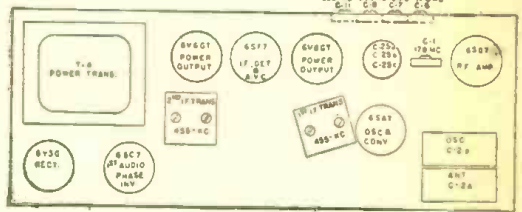
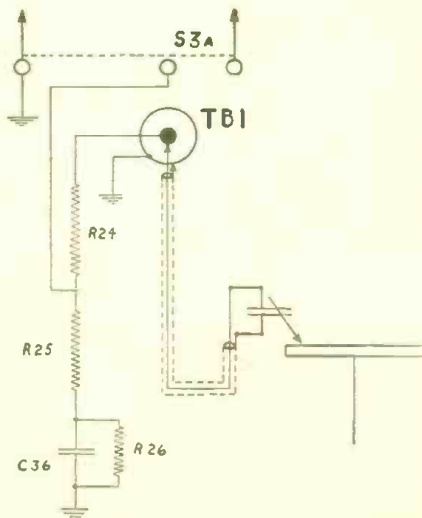

Fig. 4
Fig. 1
The location of trimmers is shown in Fig. 4. All oscillator and R.F. trimmers are accessible from the rear of the cabinet.
8. Detailed diagrams and schematics. Fig. 1 is detail of cabinet corner; Fig. 2 is cabinet from rear; Fig. 3 is battery holding-strip; Fig. 4 is cabinet from front; Fig. 5 is drilling pattern of receiver front-panel; Figs. 6 and 7 show details of loop frame; Fig. 8 is drilling pattern of transmitter front-panel; Fig. 9 is pattern of receiver chassis strip; Fig. 10 is inside of transmitter; Fig. 11 is transmitter chassis strip; Fig. 12 is detail of carrying handle; Receiver schematic and transmitter schematic.